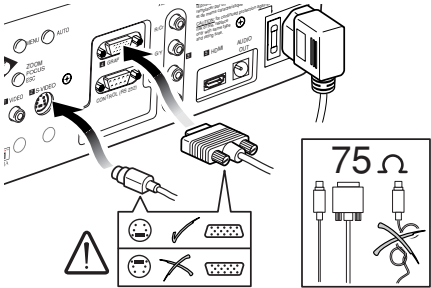

Fig. 16
- With exception of coaxial RCA/Phono type connectors, always double-check that the plug is inserted the correct way round to avoid damaging the plugs or the sockets on the projector (*Fig. 16*).